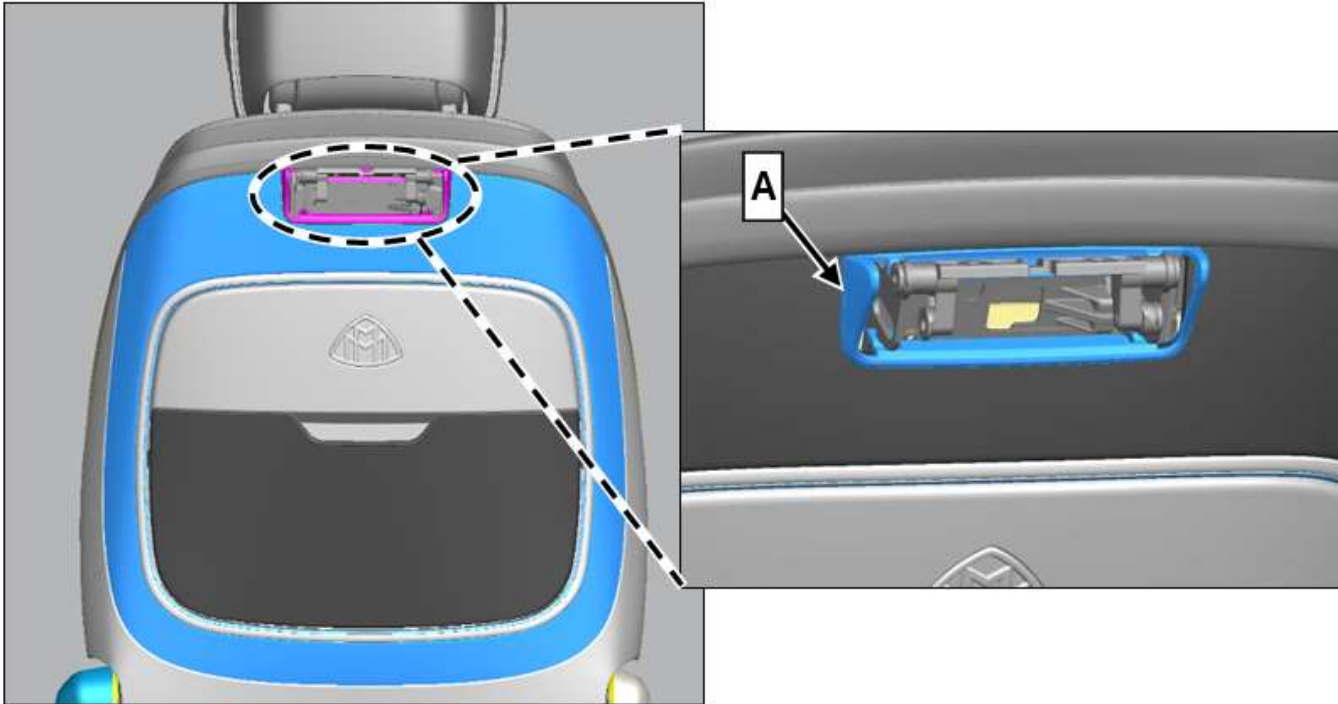

Figure 1
2. Unclip cover (A, figure 1).